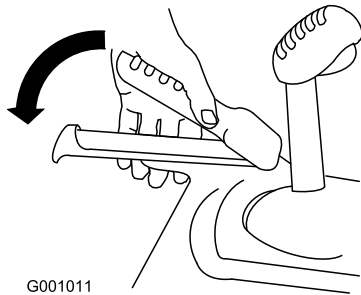

Figure 26
1. To engage the traction drive, squeeze the left (traction) lever to the handgrip (Figure 26).